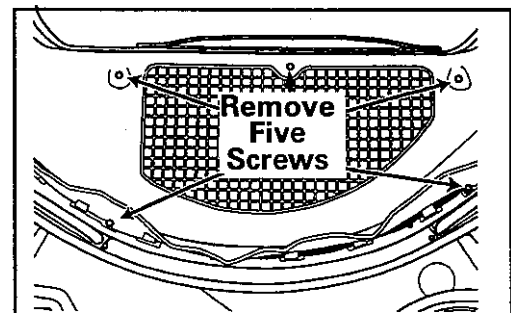

Figure 10-2
3. Remove the four 1/4" hex head screws and the one cross recess countersunk screw securing the outlet duct to the tumbler front. *Note: Two of the hex head screws are hidden under the felt seal. Pull the outlet duct free from the tumbler front, (*Figure 10-2*).*